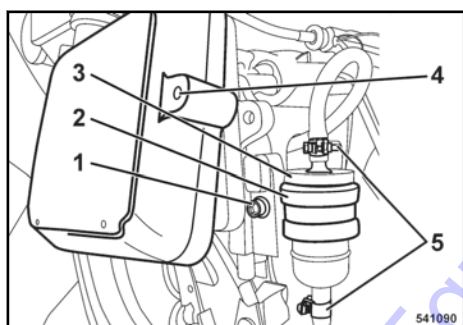

Fig. 62
Unscrew the fastening screw (4) ↪ Fig. 62 from both sides of the air filter cover.